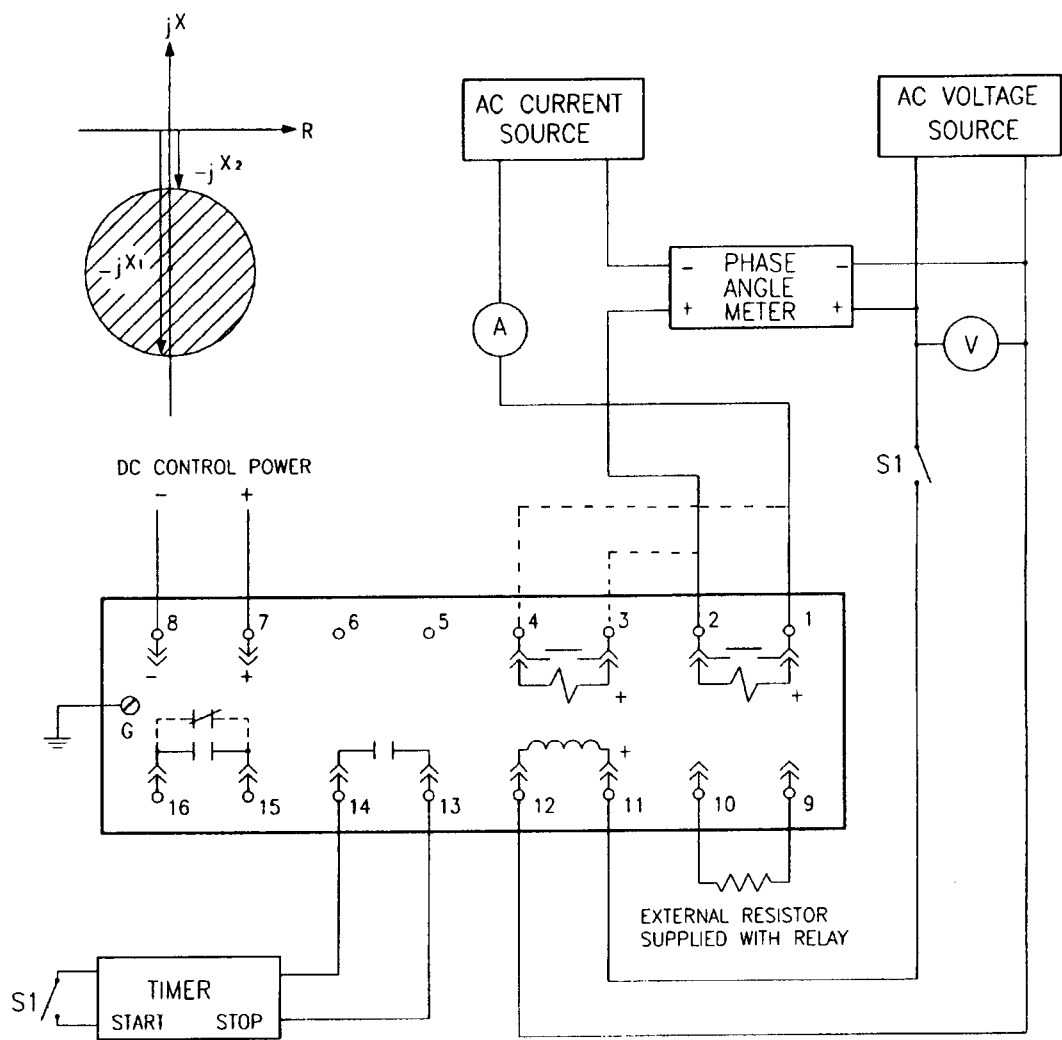

FIGURE 4: TYPICAL TEST CIRCUIT CONNECTIONS
Typical test circuit connections for checking the relay's characteristics are shown in Figure 4. Test connections are readily made to the drawout relay unit by means of standard banana plugs. Current connections are made to the vertical posts at the blade assemblies. AC voltage, control power, and output connections are made at the rear vertical printed circuit board. This board is marked for easier identification of the connection points.
- e. Move current input connection to terminals 3 and 4 and repeat steps a. to d. (Reverse the leads as shown by dashed lines in Figure 4)